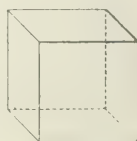

FIG. 51.
88. A **cube** (Fig. 51) is a prism whose faces and ends are squares. All the faces of a cube are equal.